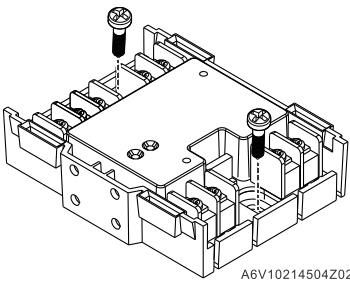

Fig. 1
- Installation on a surface (Fig. 1)
1. Position the module on a flat surface (Fig. 1).
2. Secure the module using two screws (M4) (Fig. 1). Distance between mounting holes: 63.5±1.0 mm.